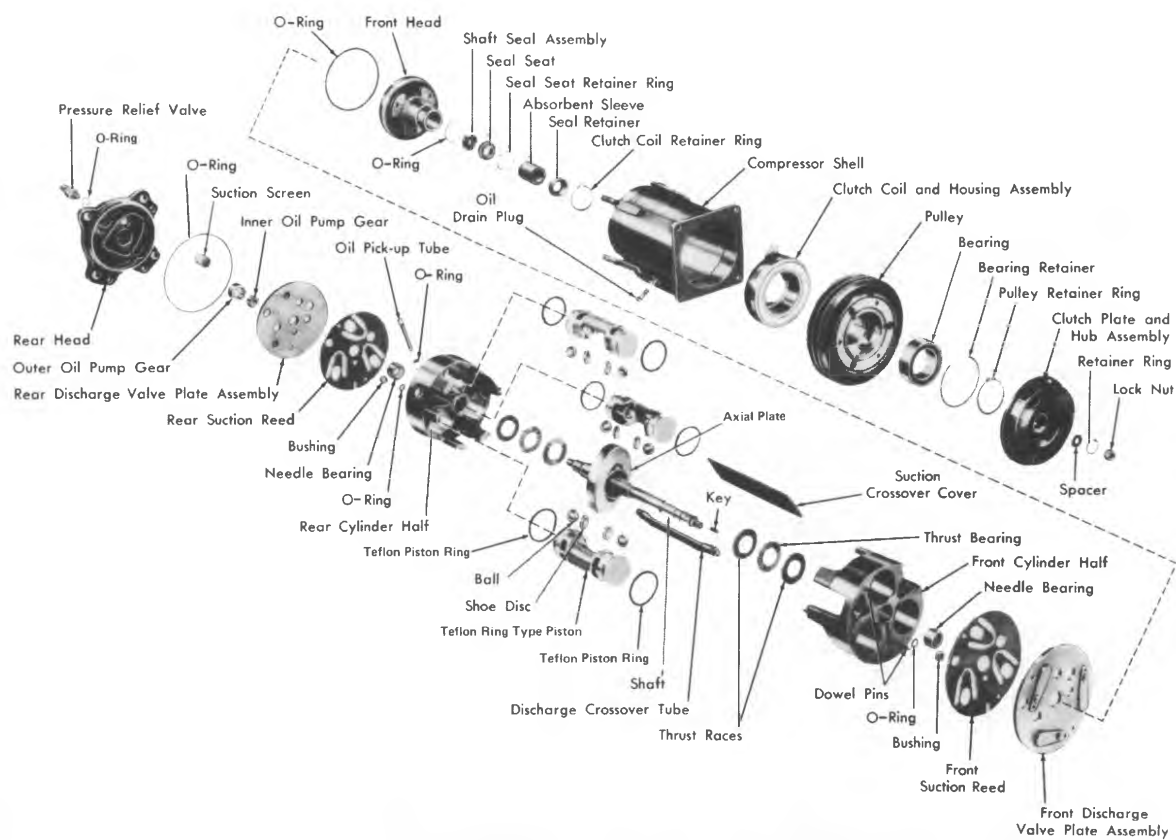
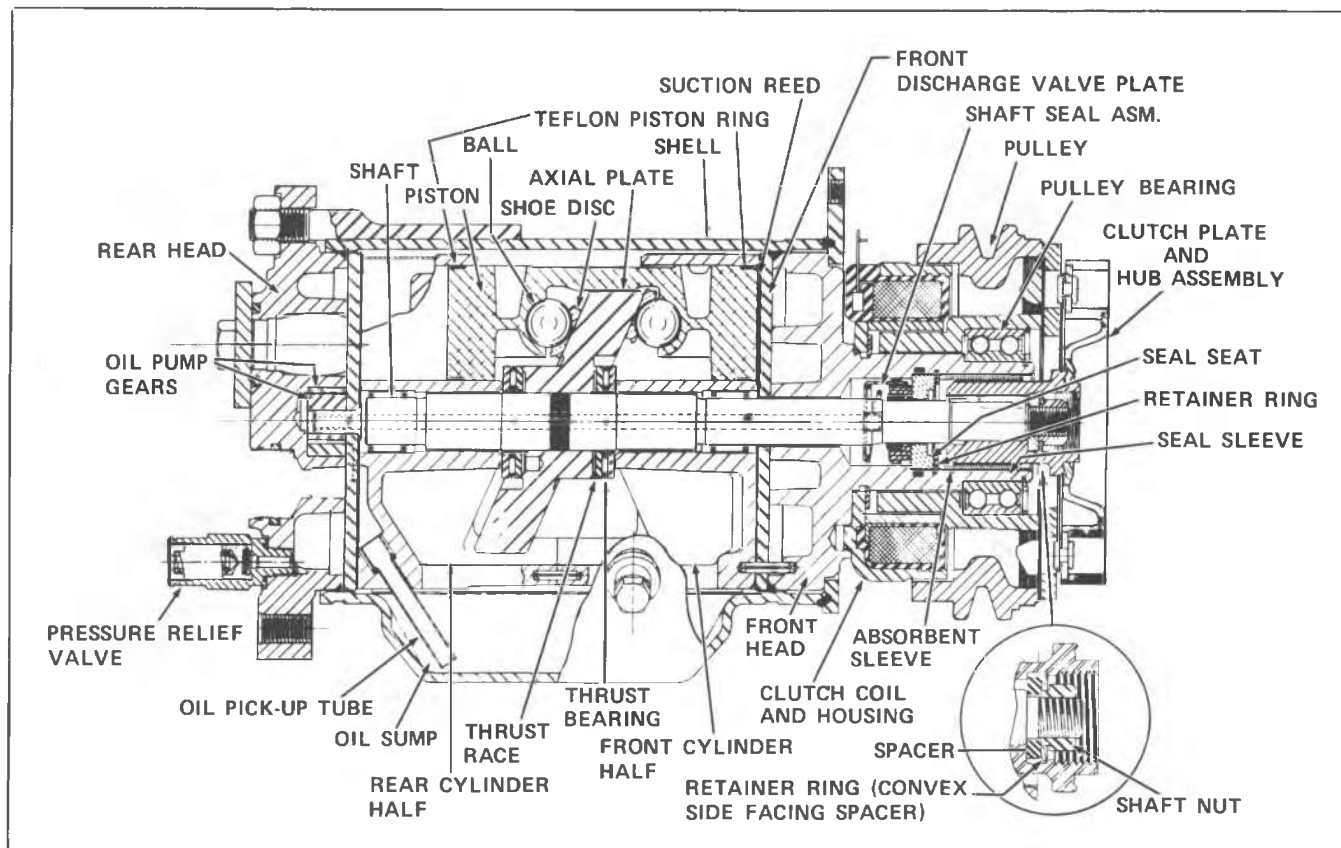

Fig. 1-Exploded View of A-6 Compressor
Fig. 2--A-6 Compressor Cross Section
When servicing the compressor, remove only the necessary components that preliminary diagnosis indicates are in need of service. Refer to Fig. 1 and Fig. 2 for information relative to parts nomenclature and location.
5. Install the hub spacer and, using Snap-Ring Pliers J-5403 (#21), install the retainer ring (see installed Retainer Ring in inset of Fig. 2), with convex side of ring facing spacer.